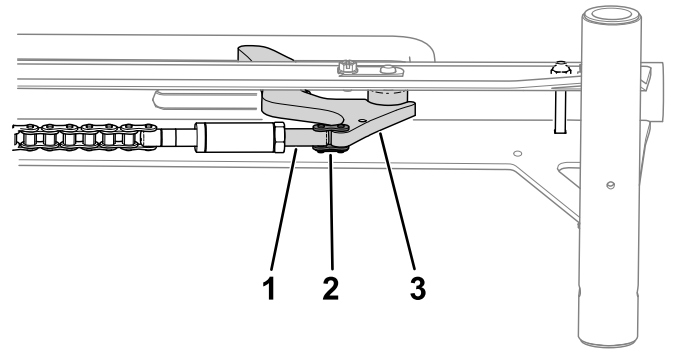

**Figure 3**
3. Use a chain link to install the chain to the chain turnbuckle (Figure 3).
4. Install the hex shaft to the chain turnbuckle (Figure 3).
5. Use a jam nut to install the chain-link turnbuckle to the hex shaft (Figure 3).